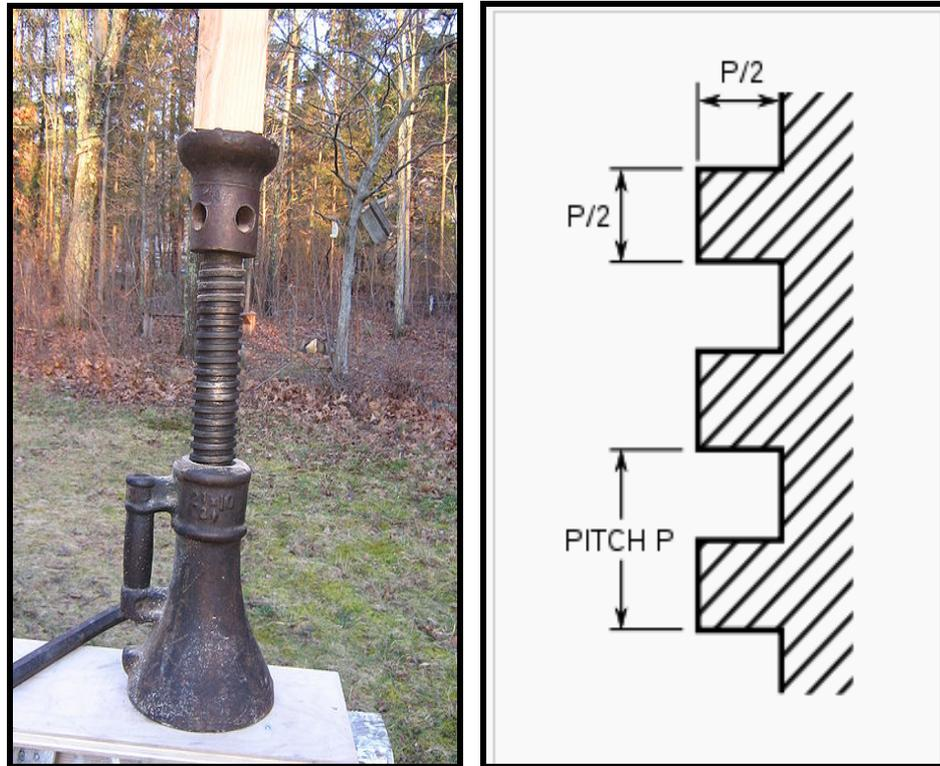

FIGURE 2.4
2.5 FIGURE 2.4 shows a double-start right-hand square thread of a mechanical house jack that is to be manufactured by an artisan. The square thread has an outside diameter of 50 mm and a pitch of 12 mm. Help the artisan to obtain the necessary information regarding the screw thread and cutting tools that are needed to cut a new thread. (Clearance angles are 3°.)